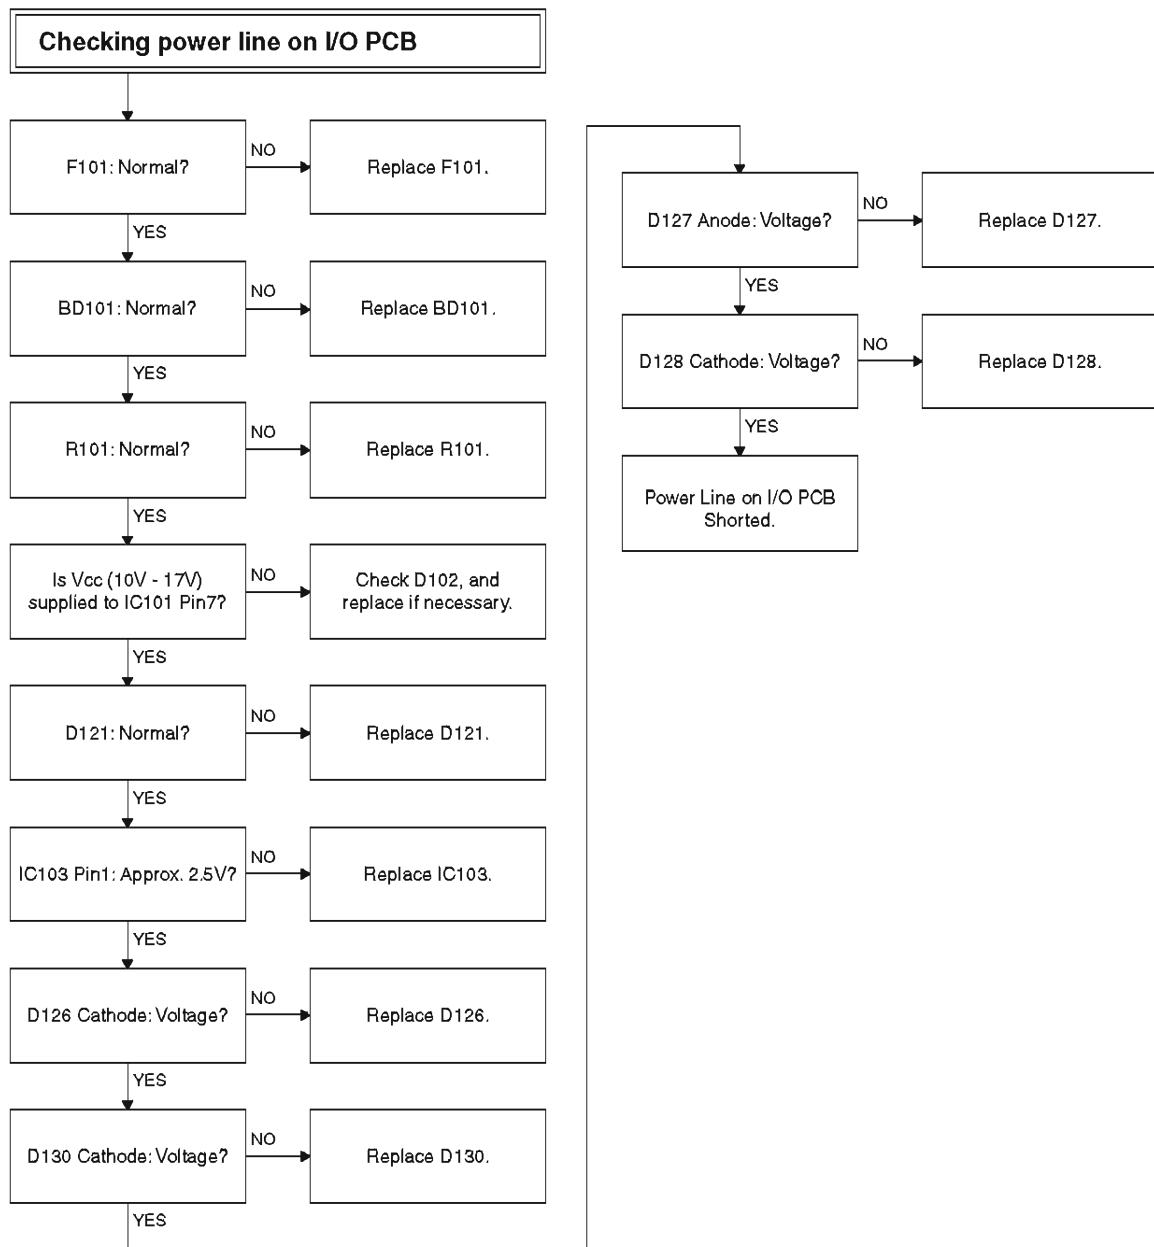

Fig. 3-2-11
- 1) The method of simultaneously updating the Main/Loader firmware programs is basically the same as that for updating individual programs. When the firmware disc is inserted, the screen for choosing the firmware programs to be updated will appear: Choose [All] (Fig. 3-2-11).